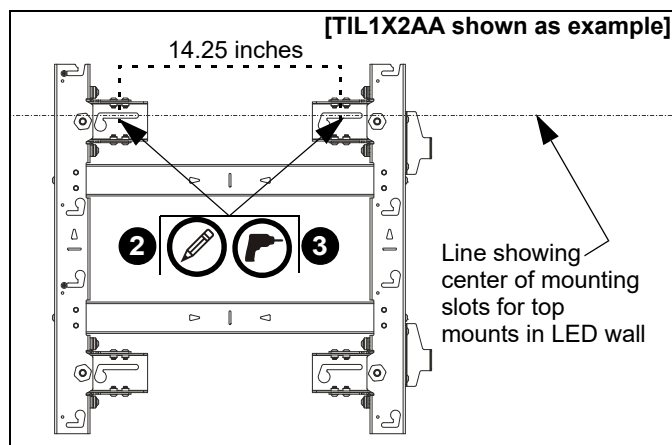

Figure 4
1. Hold furthest left, top wall mount against wall ensuring that mounting slot is lined up with center line marked on the wall in **Determining Installation Site** section. Double-check with a level. (See Figure 4)
2. Mark mounting holes in two top mounting slots along the horizontal line marked in Step 3. (See Figure 4)
NOTE: The center of the mounting holes are 14.25" apart on-center. (See Figure 4)
3. Drill two pilot holes (see Table 1 for size) at each location marked in Step 2 (See Figure 4) and follow fastener information (appropriate for wall type) located in Table 1.